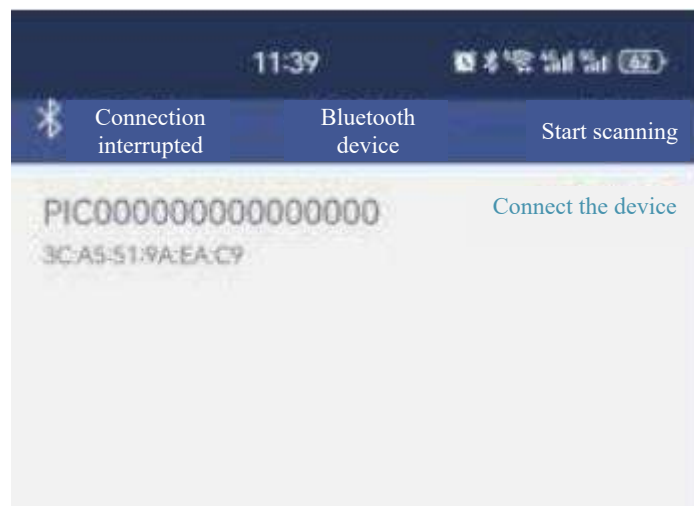

Figure 3.1
- ③ After finding the device through scanning, choose the device to be connected and click [Connect the Device] button and the mobile end will communicate with the device in real time, as shown in Figure 3.1.